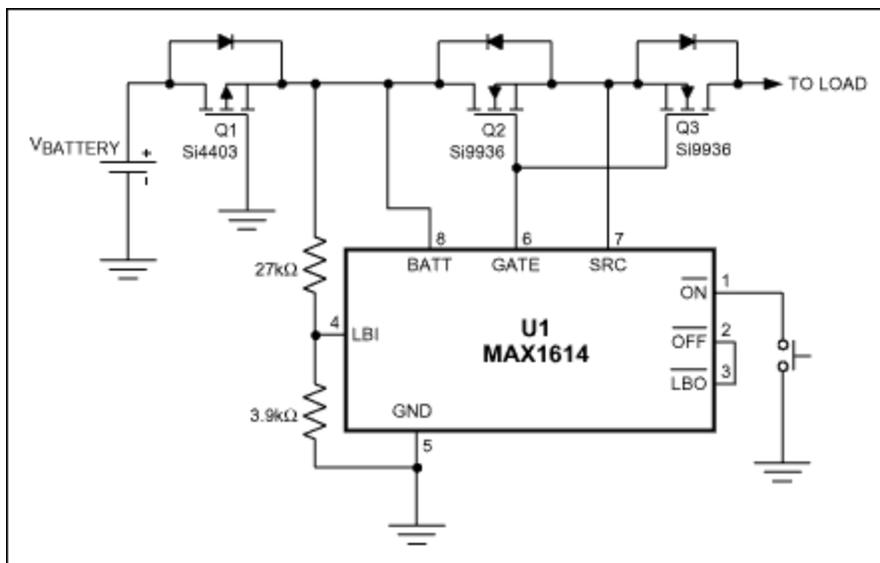

Figure 1. An external p-channel MOSFET (Q1) easily protects this MOSFET driver (U1) against reversed batteries and reversed load current.
**Figure 1** illustrates an improvement over single-diode protection. A p-channel MOSFET (Q1) protects the driver (U1) from reverse-battery insertion. Q1's low on-resistance of 10mΩ or less produces a forward-voltage drop of only a few millivolts (vs. hundreds of millivolts for a diode). Thus, substituting a MOSFET for the diode provides an immediate improvement in efficiency.
Besides reverse-battery protection, the Figure 1 circuit also protects against reverse load current at startup. Q3 ensures that no load current flows until U1 enables both n-channel MOSFETs (Q2 and Q3). Reverse load current can cause Q1 to turn on inadvertently, leaving the circuit unprotected against reversed-battery connections.